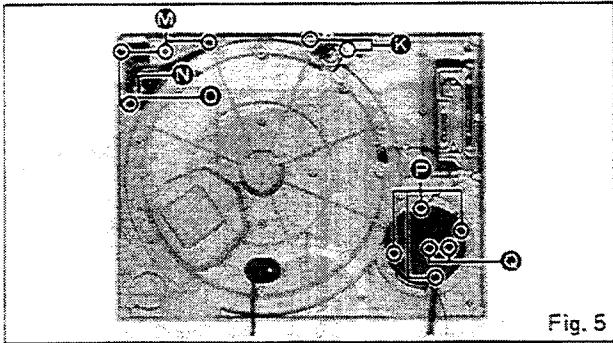

Fig. 5
11. Remove 2 screws **K** of the stylus-illuminator lamp ass'y as shown in Fig. 5.
13. Remove 4 screws **M** as shown in Fig. 5.
14. Remove 1 circlip **N** and switch cam **O** as shown in Fig. 5.
16. Remove 4 screws **P** of the arm base cover as shown in Fig. 5.
17. Remove 2 screws **Q** of the phono cord clamper as shown in Fig. 5.